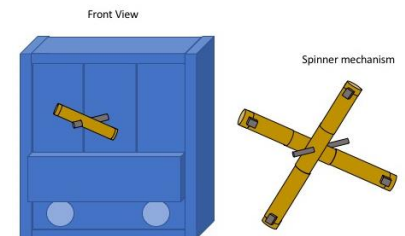

Figure 3
- Line up the three front pieces alongside each other with the 450mm piece with holes along the bottom. Lay another 450mm piece on the seam so that it overlaps all pieces and secure together with 40mm screws (see Figure 3).